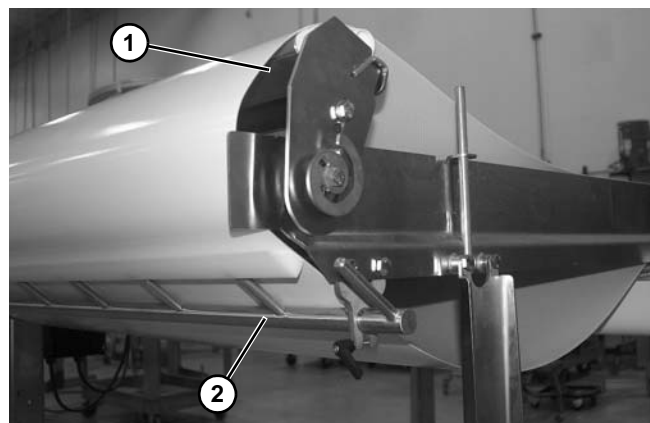

Figure 89
10. Tip up tail (**Figure 89, item 1**).
11. Remove scraper (**Figure 89, item 2**). See “Scraper Replacement” on page 25”.